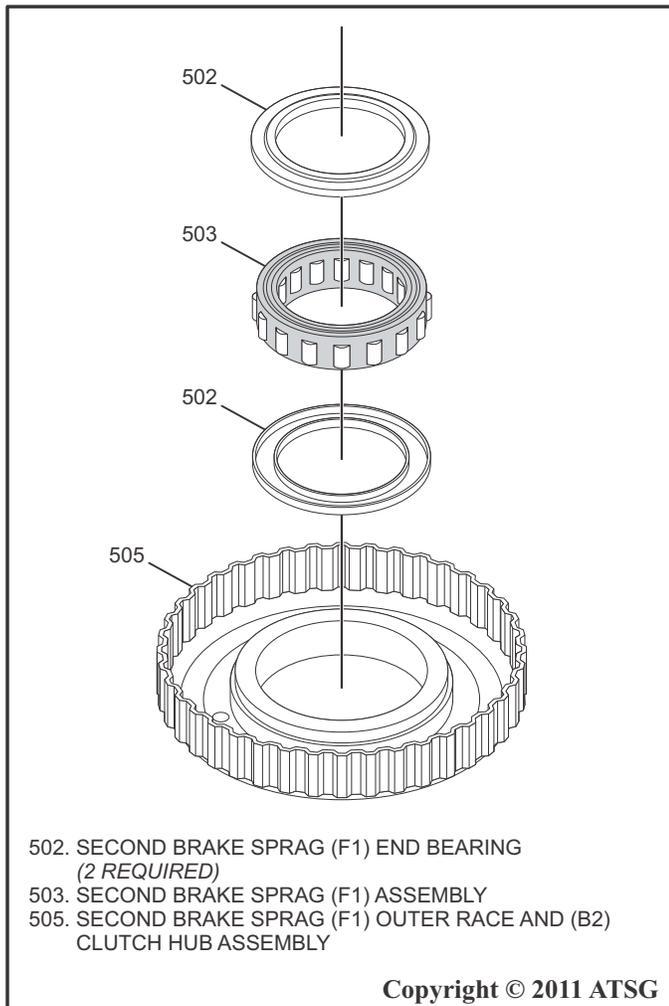

Figure 116
4. Coat the Second Brake Sprag (F1) Assembly with a small amount of ATF or Trans-Jel® and install the sprag into the Second Brake (B2) Outer Race as shown in Figure 116.
5. Install the Second Brake Sprag (F1) End Bearings as shown in Figure 116.